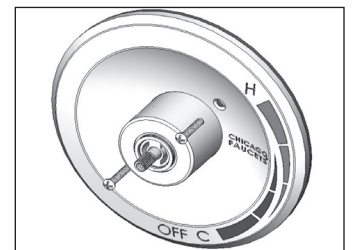

Figure 3
3. Take the escutcheon plate and slide it over the trim sleeve. Make sure that the escutcheon plate gasket is properly seated and flush against the wall. Rotate the escutcheon plate so that the "C" is positioned at the bottom of the escutcheon as shown in **Figure 3**.